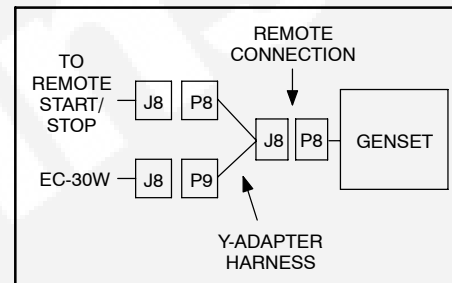

FIGURE 4-4. Y-ADAPTER HARNESS BLOCK DIAGRAM FOR DIESEL GENSETS
- B. Install the Y-adapter harness, as shown in Figure 4-4.